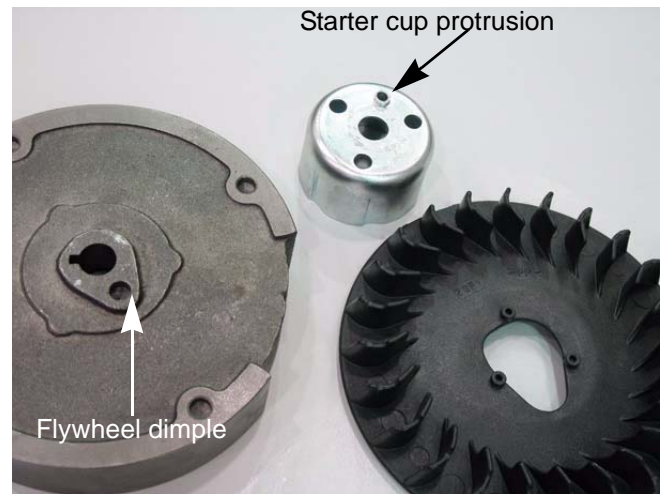

Figure 6.4
3. Install a starter cup by placing the starter cup on the flywheel allowing the protrusion on the bottom of the starter cup to rest inside the dimple in the flywheel. See Figure 6.4.